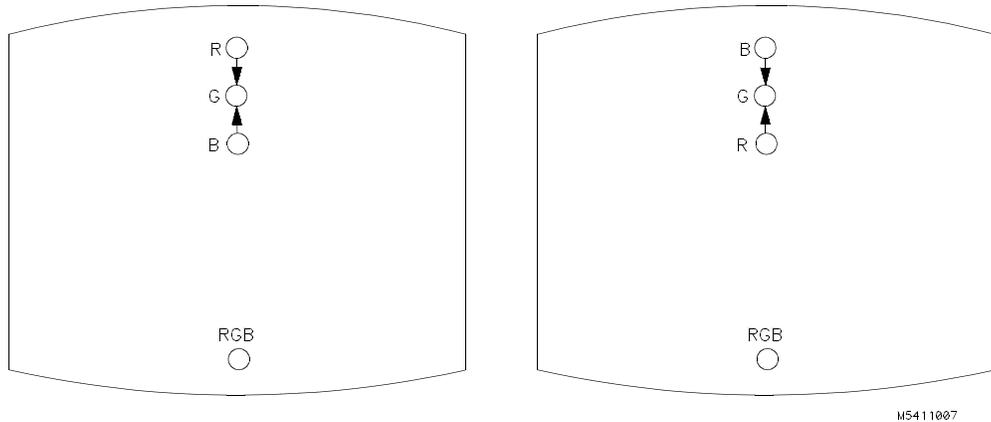

Figure 4-21. V.STAT TOP Adjustment
- Adjust the V.STAT TOP (RV801) and the V.STAT BOTTOM (RV802), located on the bottom PC board. These two adjustments allow you to obtain coincidence of red, blue, and green where the top and bottom horizontal lines intersect with the center vertical line. See figures 4-21 and 4-22.